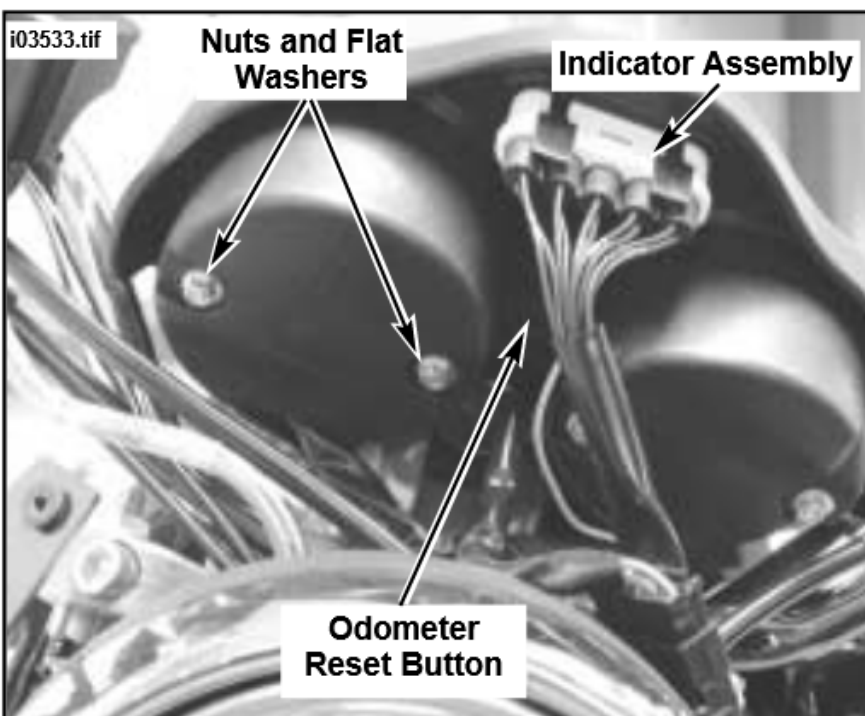

Figure 9. Install Indicator, Odometer Reset Button and Secure Tachometer/Speedometer to Panel
23. See Figure 9. Obtain two Hex Nuts (Part Number D0500.1CZ) and two Flat Washers (Part Number B0613.1Z) from kit. Fasten tachometer to cover (panel) using nuts with washers. Tighten securely. Perform the same procedure for the speedometer.